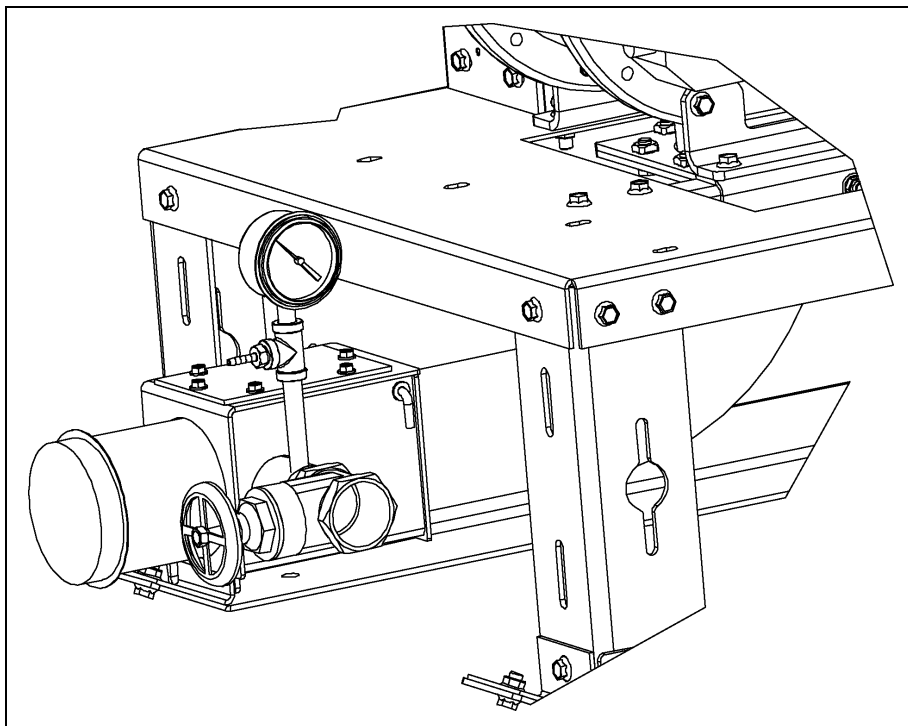

Figure 7N
- Remove 1/4" pipe plug in gate valve pipe. Install gauge assembly and attach air hose. (See Figure 7N.)